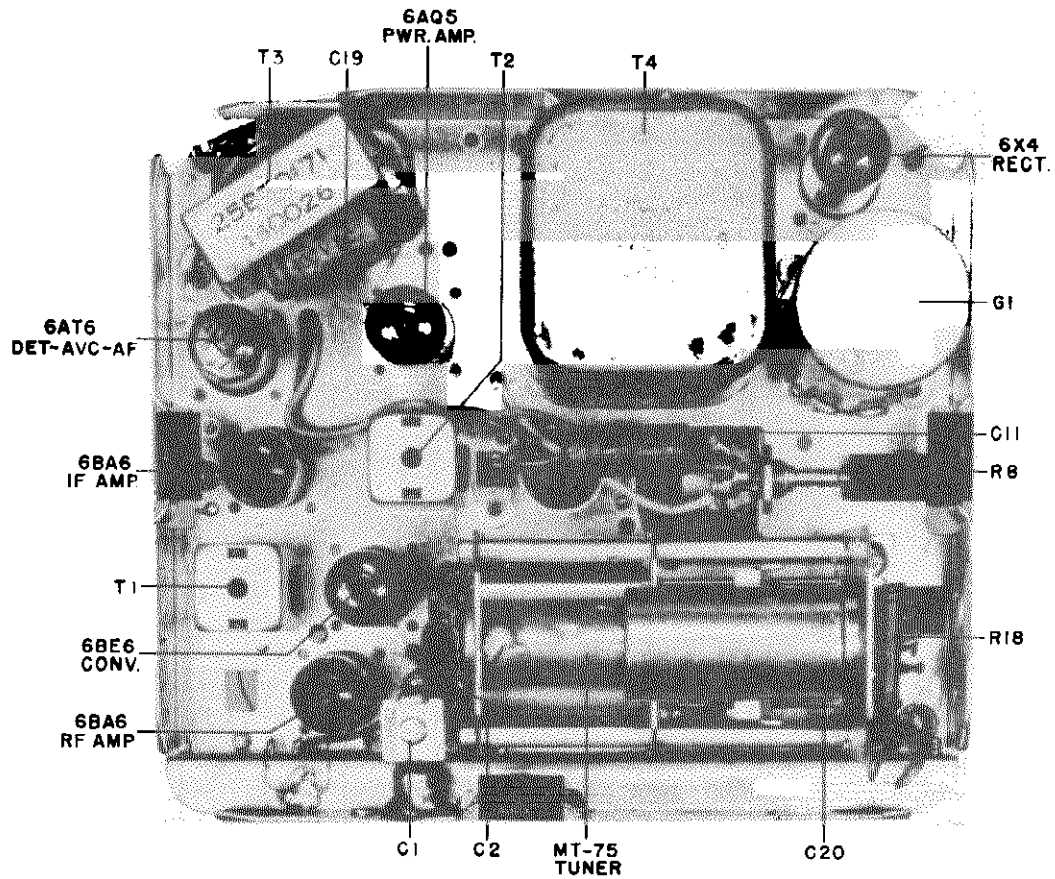

FIGURE 2. TOP VIEW OF CHASSIS
5. A dummy antenna for RF alignment. Construct dummy antenna as shown in Figure 2.
5. **IF & RF ALIGNMENT.** See Alignment Chart & Figure 2.